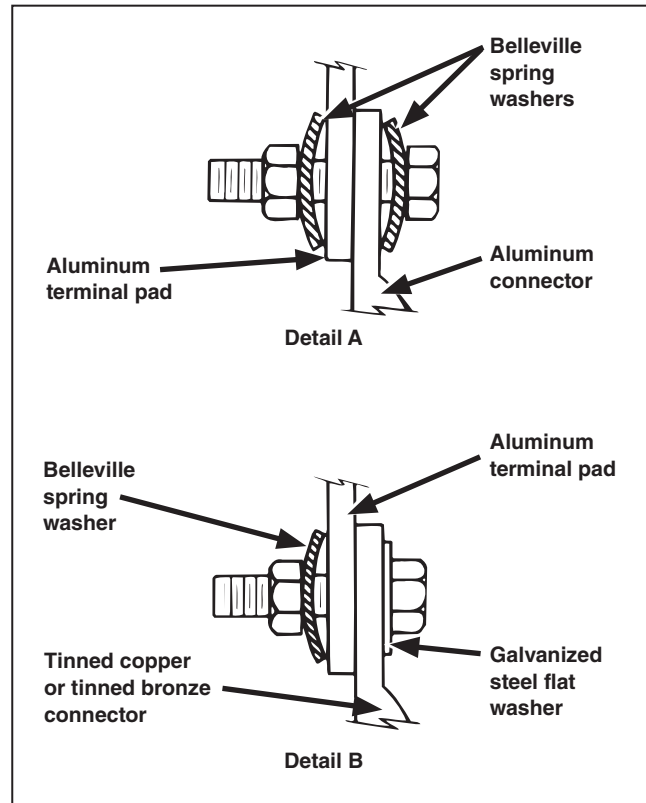

Figure 8. The terminal-pad connections.
**STEP 4.** Before connecting the cable terminators to the aluminum terminal pads, thoroughly wire-brush aluminum contact surfaces to remove any dirt or foreign materials as well as natural surface oxides. Immediately coat both contact surfaces to  $\frac{1}{2}$ -inch (13 mm) beyond the joint with a uniform layer of Penetrox® A. Then, make the connections as follows. See Figure 8:
**For aluminum connectors:** Use  $\frac{1}{2}$ -inch aluminum or galvanized steel hardware with two Belleville spring washers (not furnished) as shown in Detail A of Figure 8. Before tightening the connecting bolts, complete the installation of optional cable guides (where applicable) by following the cable-support manufacturer's instructions. Torque aluminum bolts to the manufacturer's specifications. Torque steel bolts to 50 foot-pounds (67.79 N-m) or, in the absence of a torque wrench, tighten each bolt until the Belleville washers are flat. Then, back off one-half turn. Do not use lockwashers with Belleville washers.
**For tinned copper or tinned bronze connectors:** Use  $\frac{1}{2}$ -inch galvanized steel hardware with one Belleville spring washer (not furnished) against the aluminum terminal pad and one galvanized steel flat washer against the tinned connector as shown in Detail B of Figure 8. Before tightening the connecting bolts, complete the installation of optional cable guides (where applicable) following the cable-support manufacturer's instructions. Torque the bolts to 50 foot-pounds (67.79 N-m) or, in the absence of a torque wrench, tighten each bolt until the Belleville washer is flat. Then, back off one-half turn. Do not use lockwashers with Belleville washers.